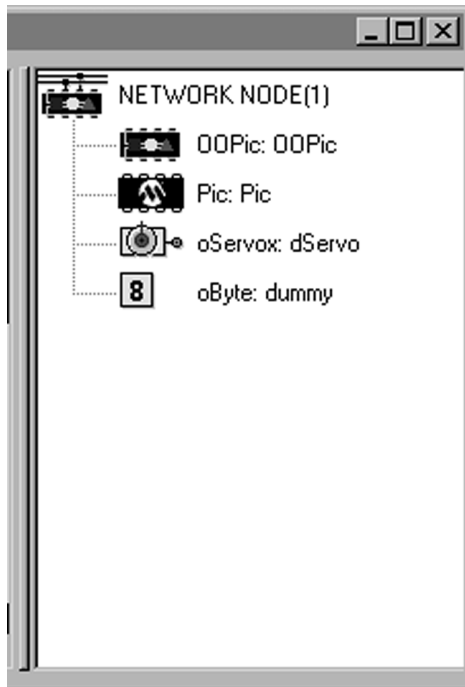

Figure 2-4 The OOPic debugger pane
- **Objects** This is a default selection. This view shows the graphical OOPic object list after a program has been compiled. When enabled, the OOPic debug functionality is accessed through this pane by clicking on the objects you are interested in. See Figure 2-4 for a short example. Debugging will be discussed later in this chapter.
- **Pic Object** Clicking this selection will include the PIC object (shown in Figure 2-4) in the debugger pane. If it is not clicked, then this object will not be present. It's really not essential to anyone but the *most* hardcore OOPic hacker.